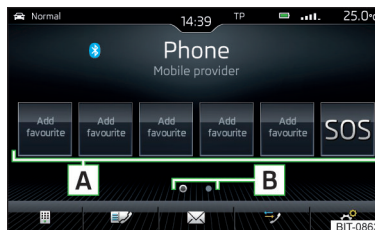

Fig. 211
- › In the main menu *Telephone*, **tap on** the desired function surface **A** » Fig. 211.
- › To the **change Storage Group** tap on the functional surface **B** » Fig. 211.
- › To **choose** tap on the assigned function area **A** » Fig. 211.
- › In the main *Telephone* menu, **press and hold** the desired function surface **A** » Fig. 211.